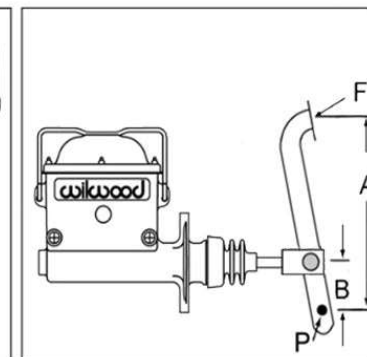

Figure 3
- [https://www.researchgate.net/figure/Tyre-characteristics-as-function-of-pressure\\_fig3\\_282574230](https://www.researchgate.net/figure/Tyre-characteristics-as-function-of-pressure_fig3_282574230)
- [https://www.researchgate.net/figure/Influence-of-inflation-pressure-on-cornering-stiffness-for-a-tire-with-full-tread-depth\\_fig3\\_275251239](https://www.researchgate.net/figure/Influence-of-inflation-pressure-on-cornering-stiffness-for-a-tire-with-full-tread-depth_fig3_275251239)